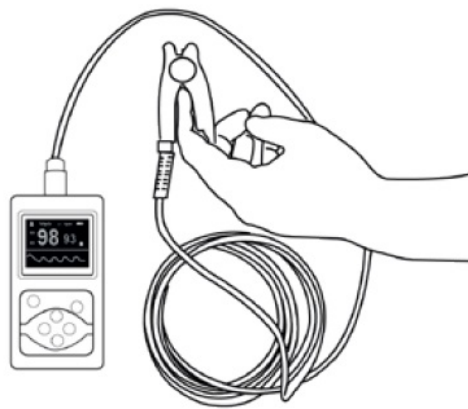

Figure 6. Sketch map for finger placement
- The finger should be placed correctly (see Attached figure 6), as improper installation or improper contact position for sensor will influence the measurement.
- **A.** Insert the finger into the probe as shown in Figure 6.
(The appearance of actual probe may be different with the one shown as Figure 6, please refer to the actual probe.) when inserting the finger, the light emitting from the sensor must be directly irradiated to the side of the fingernail. In the process of using the tested finger had better not shake, the human body also had better not be in motion state.